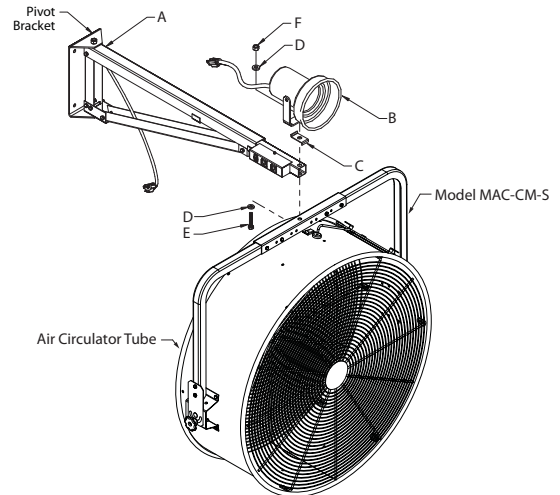

Figure 1 — Dock Arm Installation
3. Mount the pivot bracket on the dock arm(A) to a structurally adequate wall using (4) appropriate fasteners (by others).
4. Raise the fan to the dock arm and insert the 1/2 x 3" bolt(E) and washer(D) through the ceiling mount bracket and dock arm. Refer to Figure 1.
5. Add Z-Clip(C) and light fixture(B). Fasten with washer(D) followed by nylok nut(F). Back off nut 1/4 turn to allow fan movement.